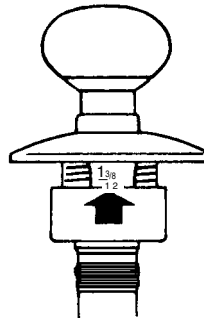

Figure 19.46 Electrified key-in-knob lock installation, Step 4.
4. Adjust for the door thickness by moving the outside rose either in or out until the indicator on the lock shows the proper thickness for the door. Make sure the rose clicks into place (Fig. 19.46). The lock will fit on all doors 1½ to 2 inches thick. (If you need a lock for a thicker door, special order it from the company.)